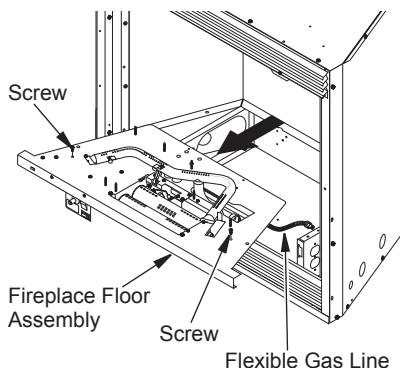

Figure 6 - Removing Fireplace Floor Assembly
3. Remove screws that attach fireplace floor assembly to fireplace. Open lower louver door. Carefully lift up fireplace floor assembly and remove from fireplace, taking care to pull flexible gas line through the access holes (see Figure 6, page 10). *Note:* Be careful of all wires on underside of log base.